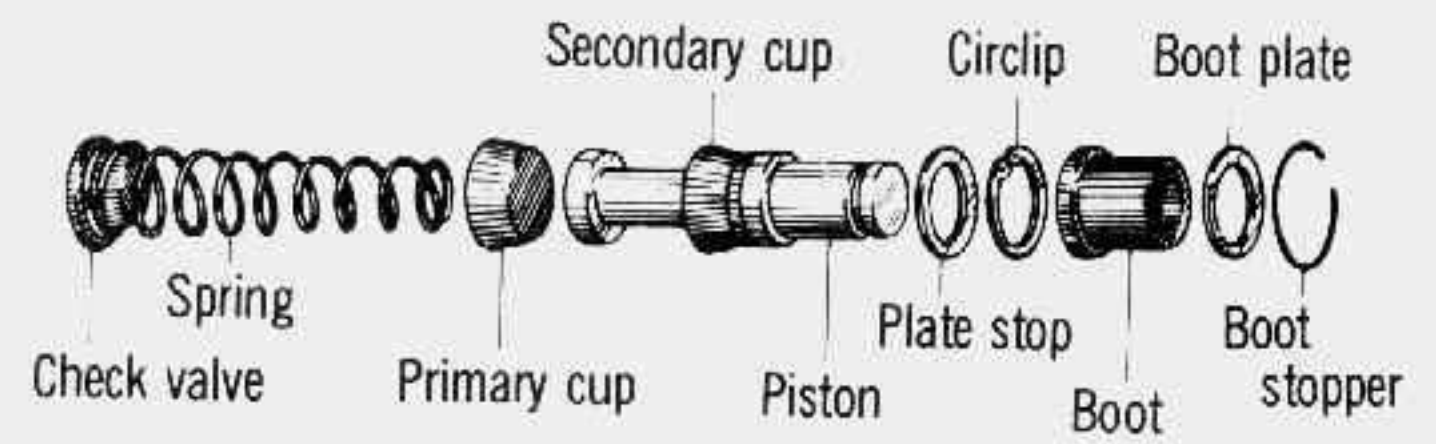

Fig. 8-2-18.
- Do not confuse the directions of assembling the primary cup. (Refer to Fig. 8-2-18).